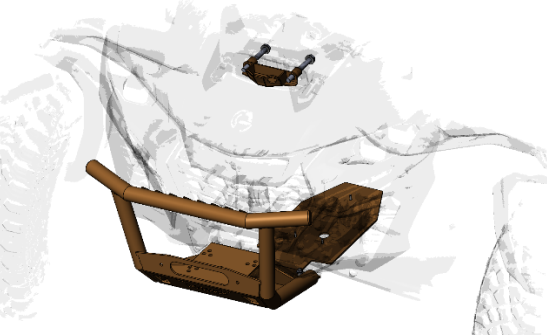

Figure 6
7. Temporarily install the **Skid plate Subassembly** using the supplied **M10x25 Button Head Screws**, **Backing Plates** and **M10 Flange Nuts**. Refer to **Part B: Installation, Steps 1 through 3** for preparation. **Refer to Figure 6.**